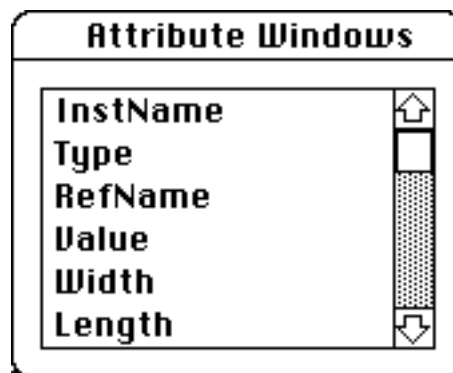

Figure 4-10 Attribute Window Dialog Box
1. Select **Add->Show Attributes** from the menu. A list box appears (see Figure 4-10) containing all the attributes that currently have window numbers defined.